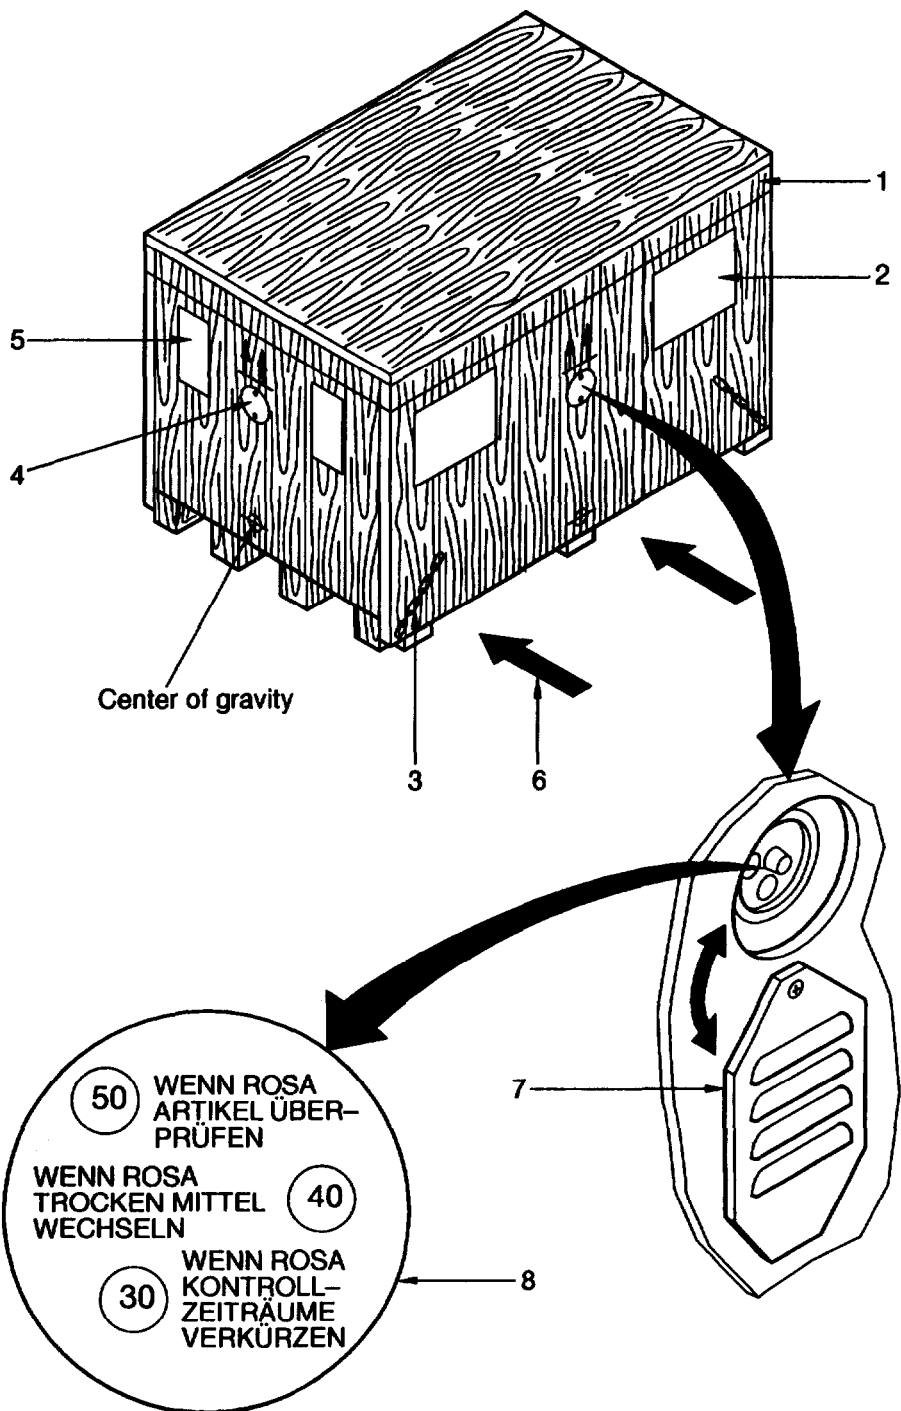
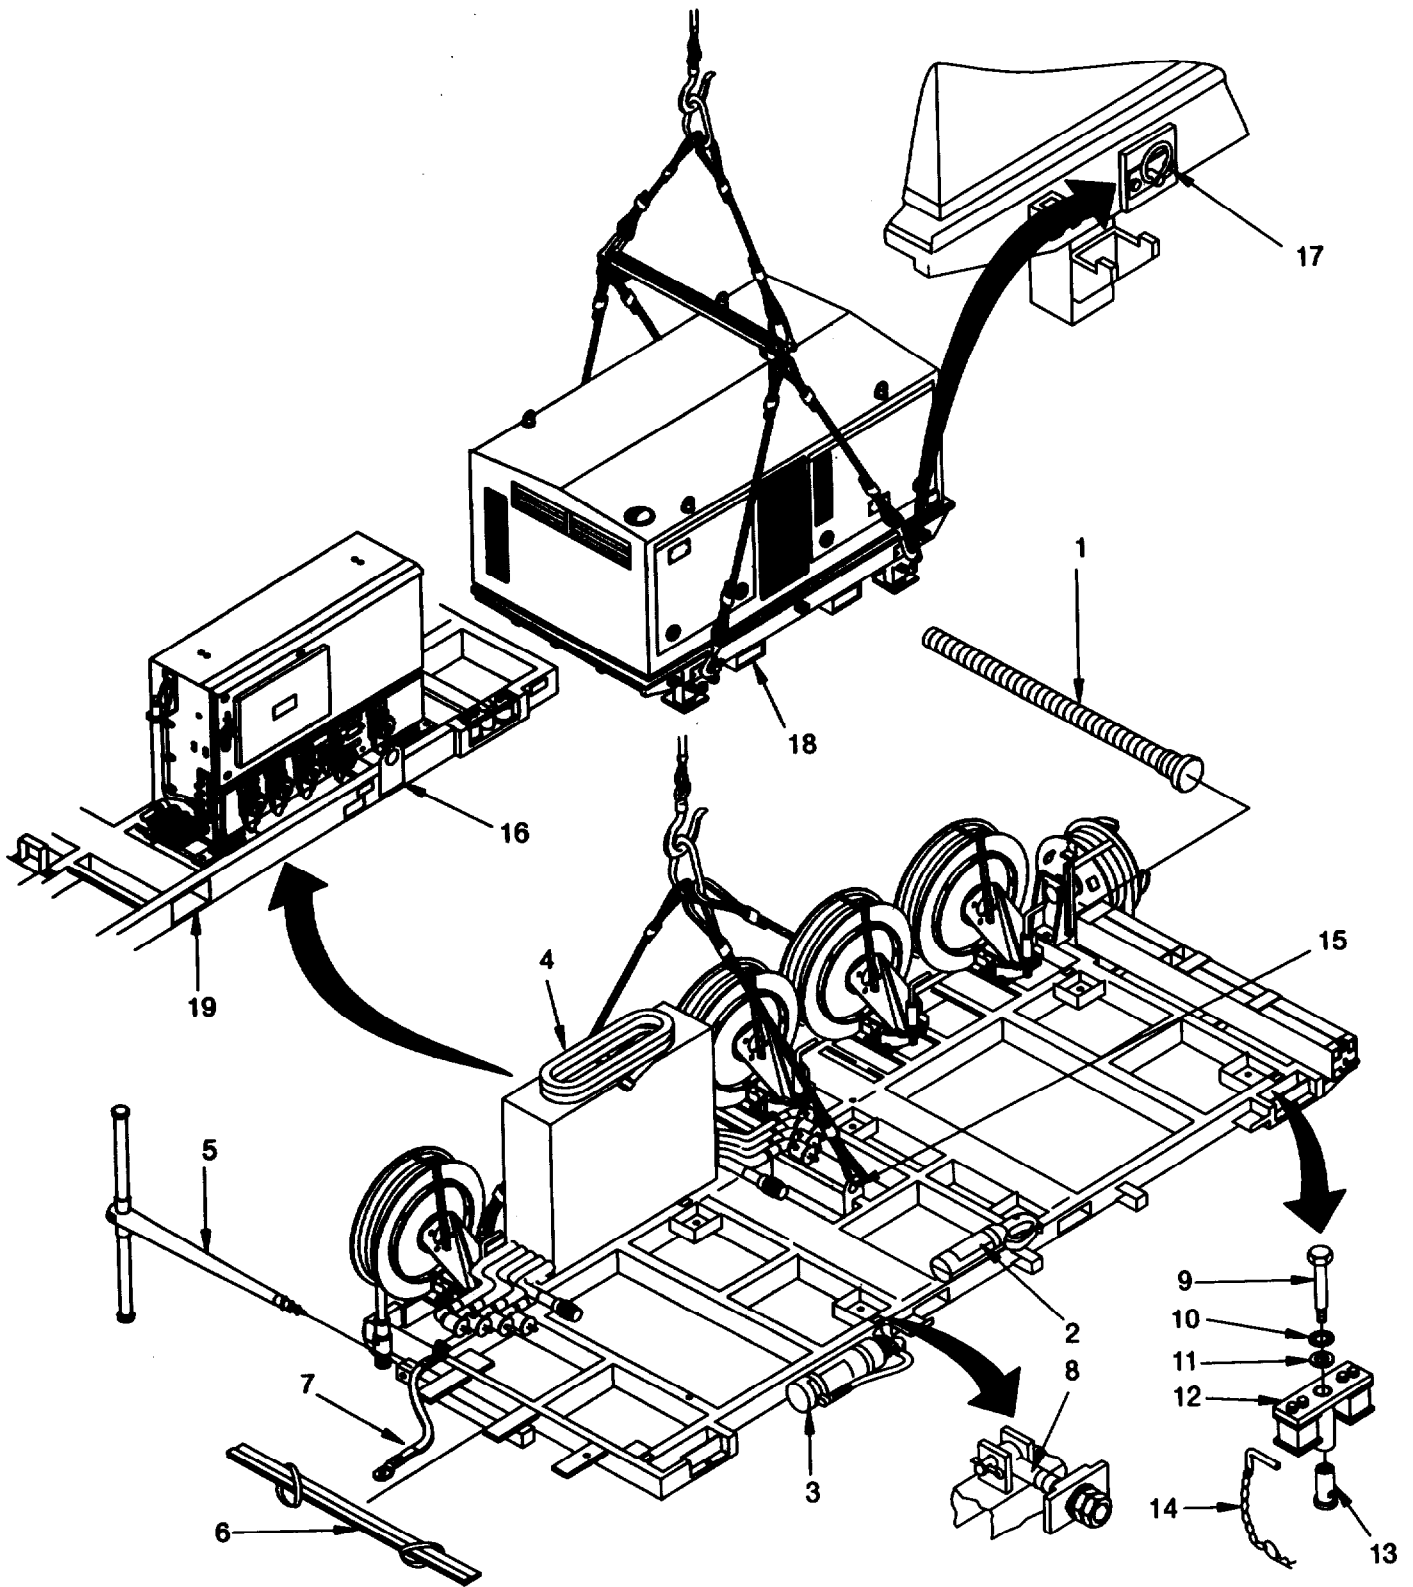

Figure 4-1 Original Packaging in Container
Figure 4-3 EPP III, Unpacked.
The Generator Set 150 kW and pallet frame are packed separately, each in a wooden container (figure 4-1). The container is covered at the top by rainwater protection film (1). The packing list is located below the plate (2). The container is labeled with the necessary logistical identifiers (5).
- a. Remove cover (1) and wooden members (2).
- c. Detach film at points (3). The forklift sockets (18, 19, figure 4-3) are located here.
- e. Remove all film material from the Generator Set 150 kW. Check pallet frame against figure 4-3 for completeness.
- 4 Exhaust pipes (1) in container
- 1 Fire extinguisher (2)
- 1 Fire extinguisher (3)
- 2 Grounding cables (4), one cable unattached
- 1 Grounding rod (5)
- 1 Sling assembly (6) with two attachment belts
- 3 Grounding straps (7) bolted onto frame
- 8 Bolt connections (8)
- a. Remove cover and four sides of the container (figure 4-1).
- b. Detach film so that lifting lug (15, figure 4-3) at center and the two lifting lugs (16) on the pallet frame are accessible from the side.
- c. Detach film from the end of the pallet frame so the sling assembly (6) is accessible.
- d. Remove sling assembly (6) from the pallet frame. Suspend the sling assembly from the crane.
- b. Detach film so the four lifting rings (17) at the corners are accessible.
- c. Remove sling assembly (6) from the pallet frame. Suspend the sling assembly from the crane and position the crane approximately above the center of Generator Set 150 kW as shown in figure 4-3.